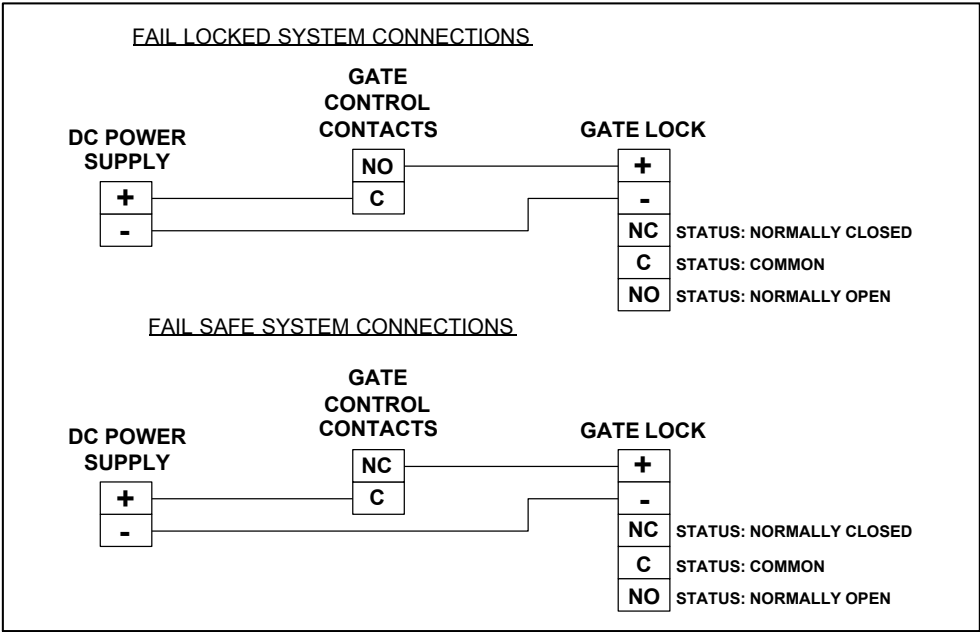

Figure 10 – Wiring Diagram
In Fail Locked mode: Applying input voltage of 12 or 24 volts DC, observing polarity (See **Figure 10**), will energize and **unlock** the Gate Lock allowing the gate to be opened. Removing the input voltage will de-energize the Gate Lock and will allow it to mechanically latch secure when the gate is closed.
- Check wiring...Ensure wires are connected to the appropriate terminals (see **Figure 10**, page 13).